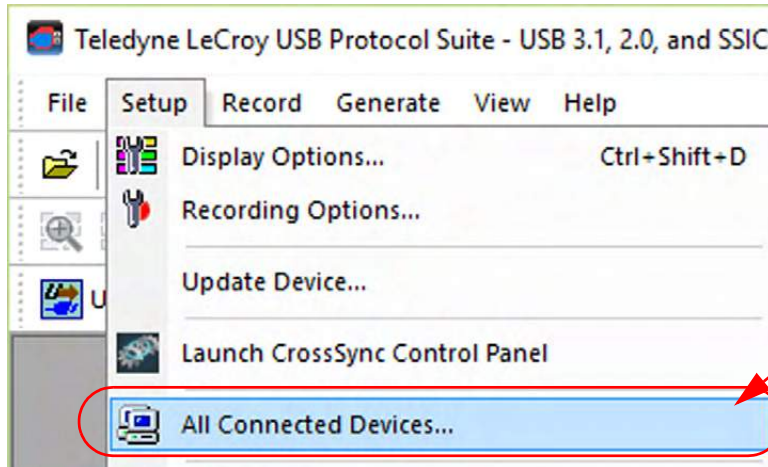

Figure 3.34: Setup: All Connected Devices
3. After the analyzer has initialized, Start the USB Protocol Suite software and select "Setup -> All Connected Devices". See Figure 3.34 on page 126.